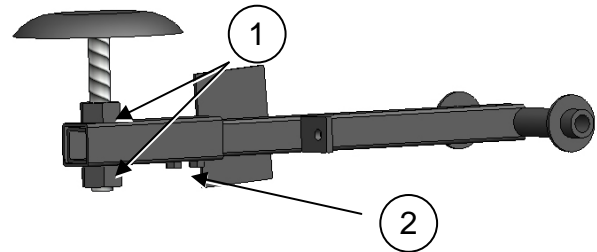

FIG. 8
1. Loosen nuts, 1, FIG. 8, on threaded rod.
1. Loosen nuts, 2, FIG. 8, on telescoping tube.